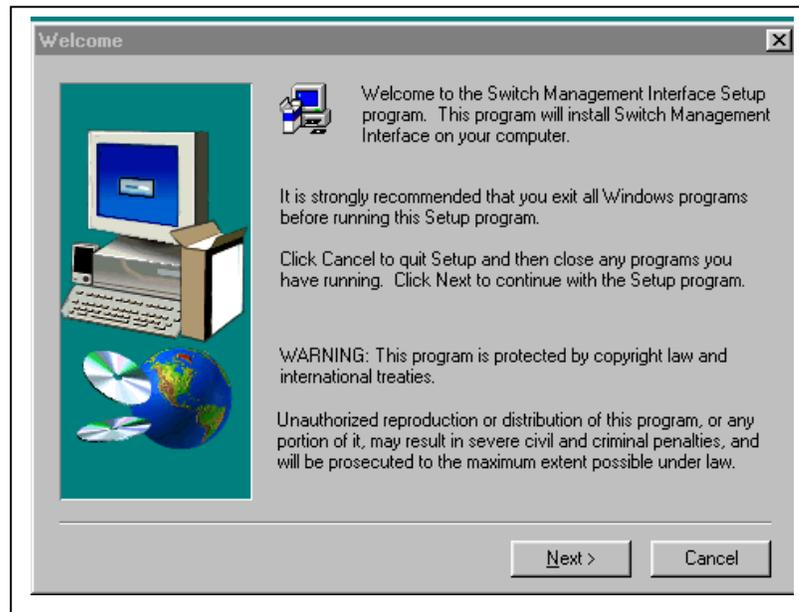

Figure 5.3. Welcome screen
5. The welcome screen appears, click **Next**. (see Figure 5.3 below)